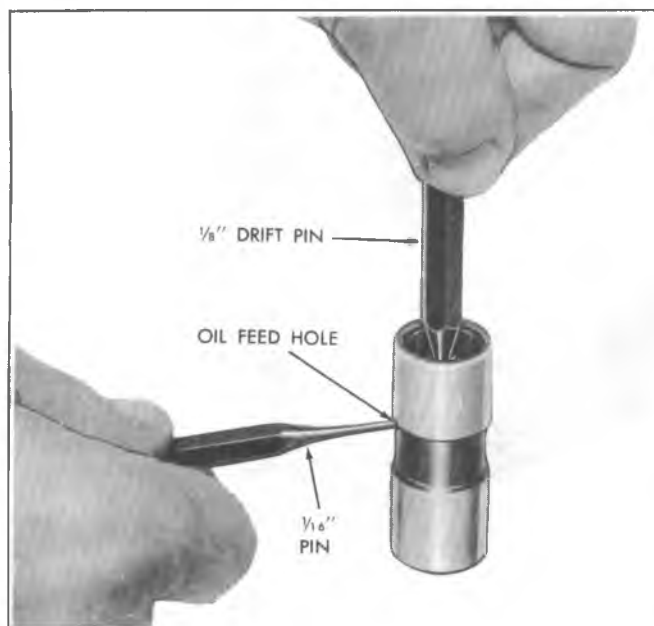

Fig. 6A5-17--Assembling Hydraulic Lifter
5. Insert a 1/16" (1.6mm) drift pin through both oil holes to hold the plunger down against the lifter spring tension (fig. 6A5-17).
7. Install the metering valve and push rod seat (fig. 6A5-14).